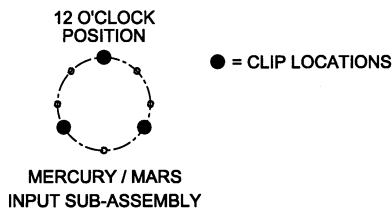

Figure 6.7.1a Location of Shroud Clips
- Remove mounting bolts from input subassembly / maincase in the following locations and install shroud clips (reference Figure 6.7.1a).